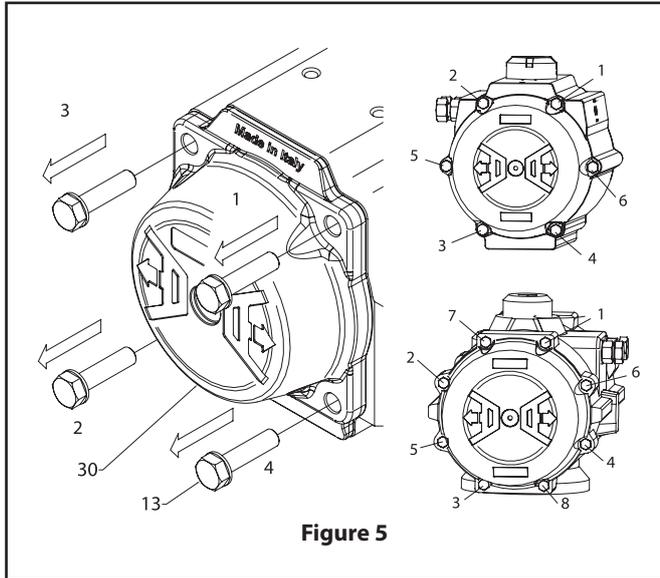

Figure 5
- B. Remove stop screw o-rings (11) and discard if replacing all soft parts.
**3. End Cap (30) Disassembly, (Figure 5):**
- A. Remove the end cap bolts (13) in the sequence shown in (Figure 5). **CAUTION: When disassembling a spring return actuator, the end cap (30) should be loose after unscrewing the end cap bolts (13) 4-5 turns. If there is still force on the end cap (30) after 4-5 turns of the end cap bolt (13), this may indicate a damaged spring cartridge and any further disassembly should be discontinued. Further disassembly of the end-caps may result in serious personal injury. Return actuator to Metso for further maintenance.**
- B. For spring return actuators, remove spring cartridges (17).